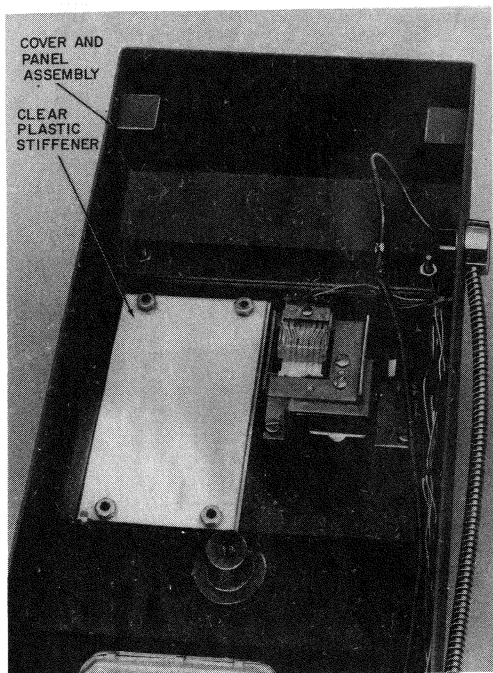

Fig. 15—Stiffener (Part of D-180941 Kit of Parts) Installed Over Shield and Information Card on Cover and Panel Assembly of 10A Coinless Telephone Set
- (1) Remove the cover and panel assembly from the rear pan assembly.
- (2) On the cover and panel assembly remove the four nuts which retain the metal instruction card stiffener. Remove the stiffener and the instruction card.
- (3) Install the 1/16 inch clear plastic shield over the four studs. Then install the translucent information card (furnished by the operating company) over the clear plastic shield. Next install the 1/8-inch clear plastic stiffener over the instruction card. The plastic stiffener is retained by the four nuts (Fig. 15) which retained the metal stiffener.